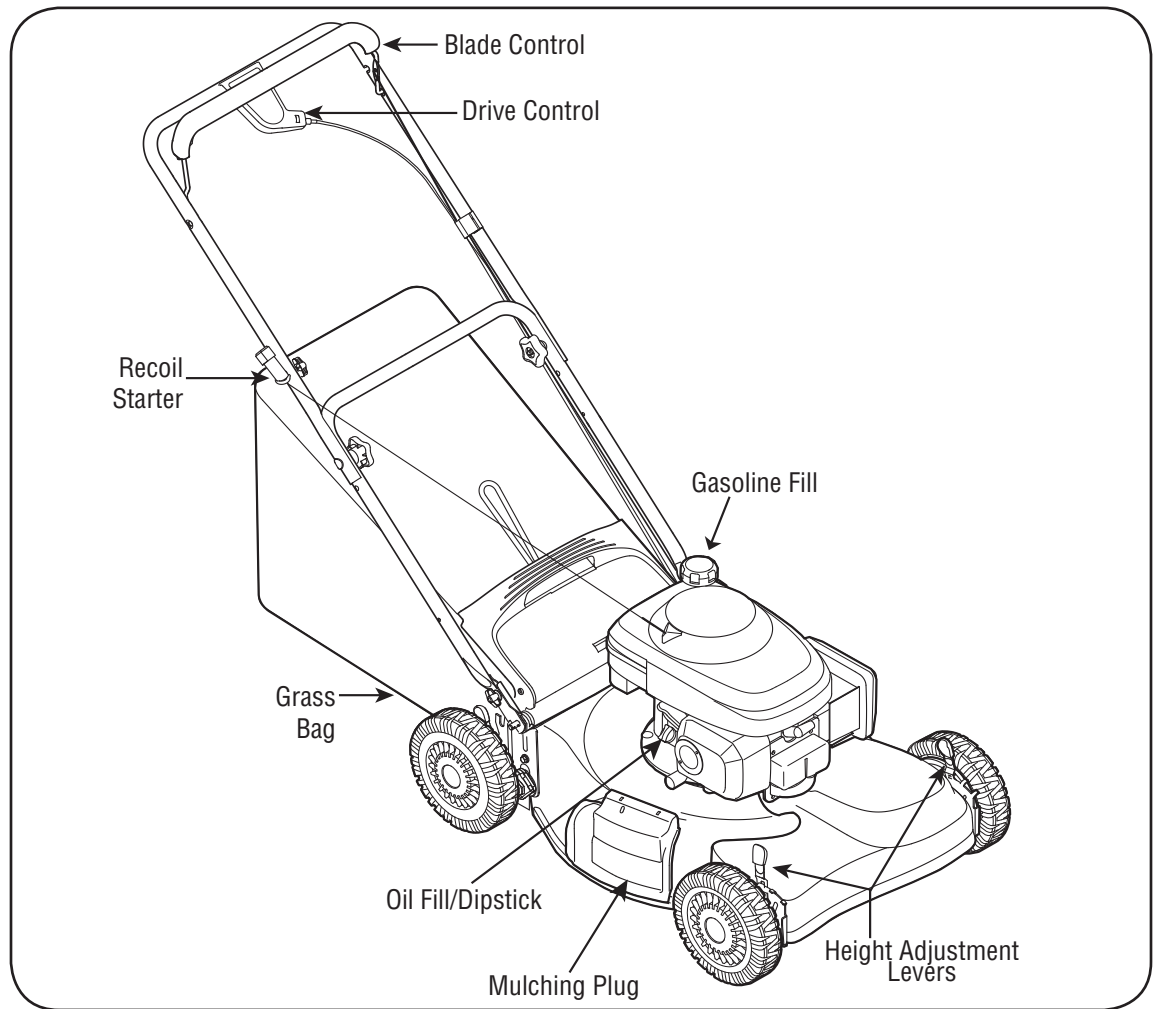

Figure 4-1
The drive control is located on the upper handle. Squeeze the drive control lever to engage the drive system. Release it to disengage the drive system. To slow down when approaching an obstacle, making a turn, or stopping, release the lever. See Figure 4-1.
1. Check oil level and add oil if necessary. Follow engine manual for this. See Figure 4-1 above for location of the oil fill.
2. Service the engine with gasoline as instructed in the engine manual. See Figure 4-1 above for location of gas fill.